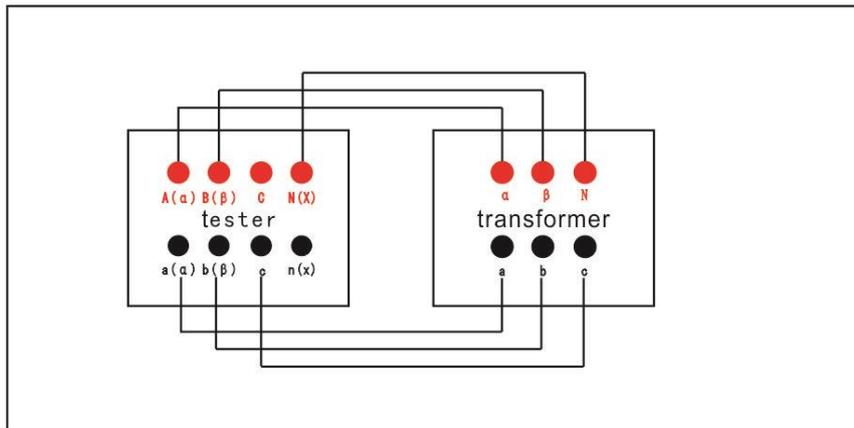

Figure 4
- Two-phase/three-phase transformer is connected according to Figure 4.